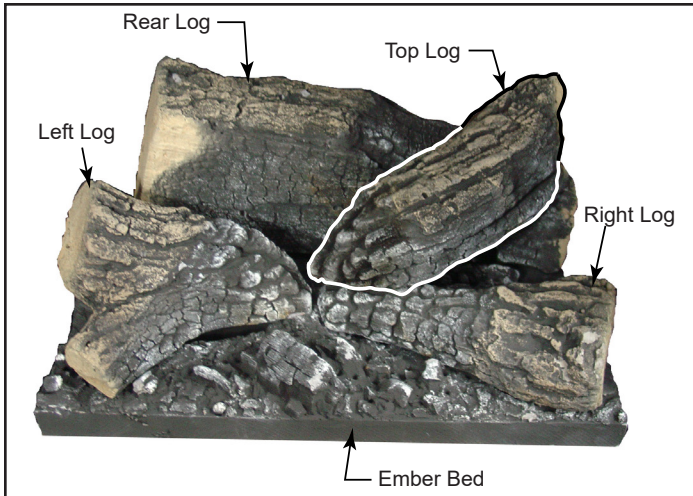

Figure 3.29 - Completed Installation
5. Install top log by mating hole on bottom of log with locating pin on top right side of rear log, Figure 3.29. Position log so it is angled down toward the area where the front two logs meet.